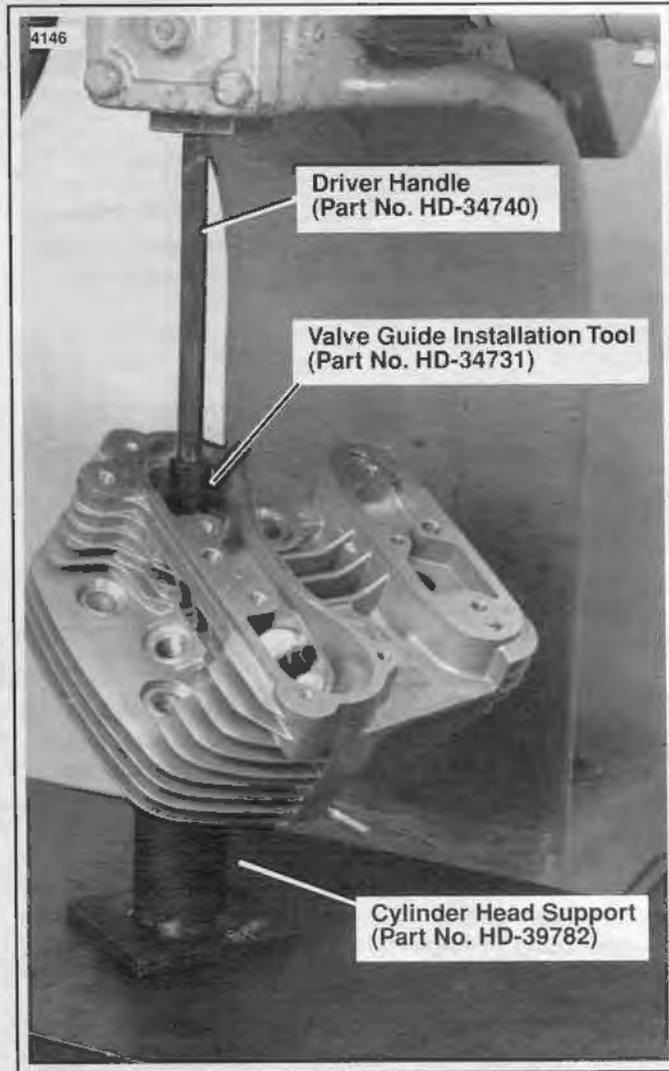

Figure 3-25. Installing Shoulderless Valve Guide
- See Figure 3-25. Install shoulderless guides using CYLINDER HEAD SUPPORT, Part No. HD-39782, VALVE GUIDE INSTALLATION TOOL, Part No. HD-34731 and DRIVER HANDLE, Part No. HD-34740. Lubricate and press guide until the tool touches the machined surface surrounding the guide. At this point, you have reached the correct guide height.